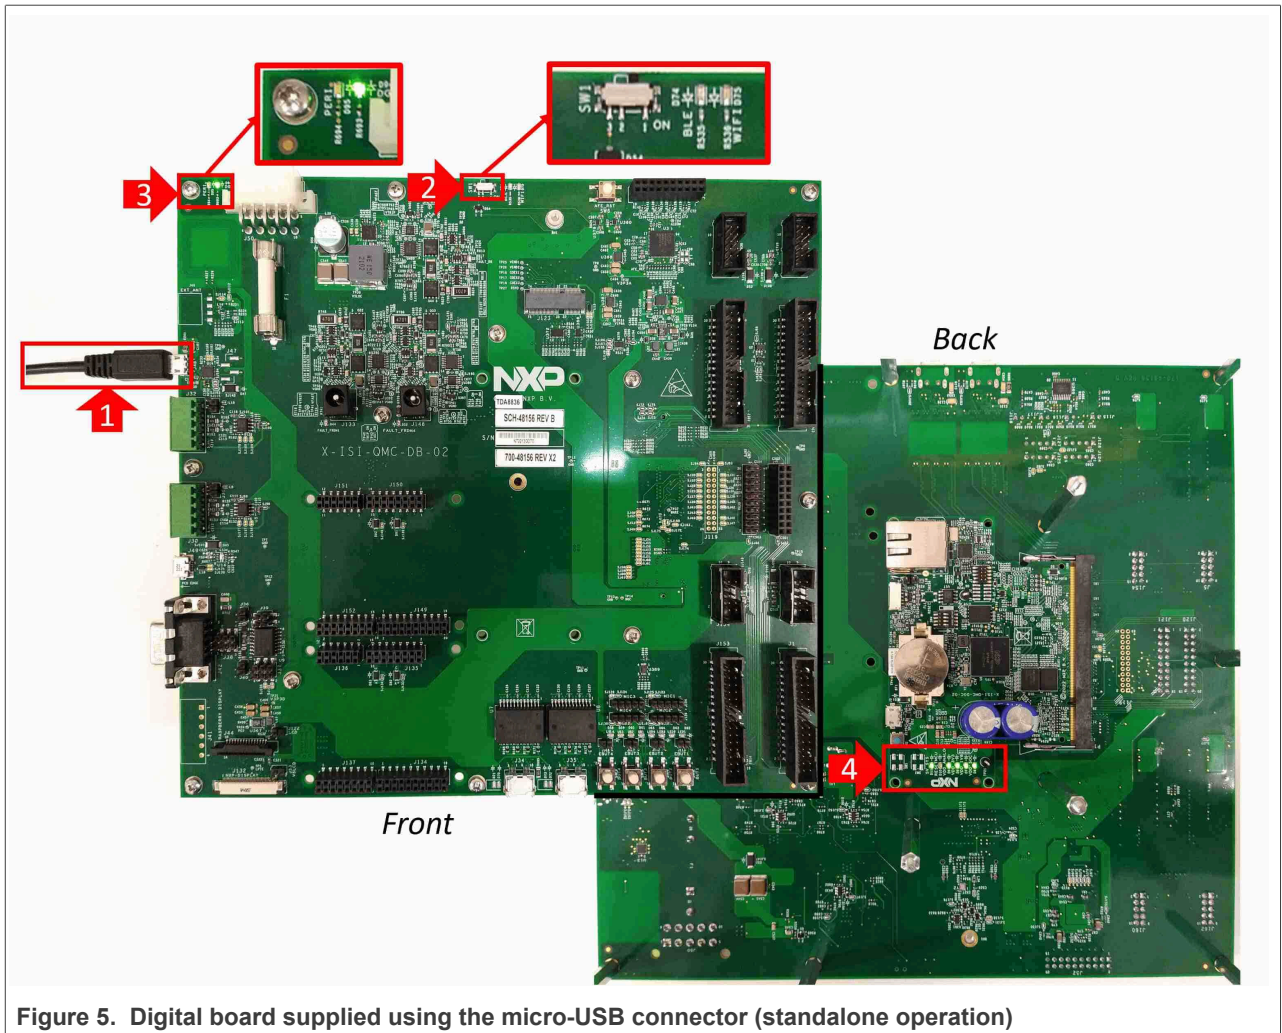

Figure 5. Digital board supplied using the micro-USB connector (standalone operation)
5. Check that the daughter card is properly connected to the digital board as shown in Figure 5: